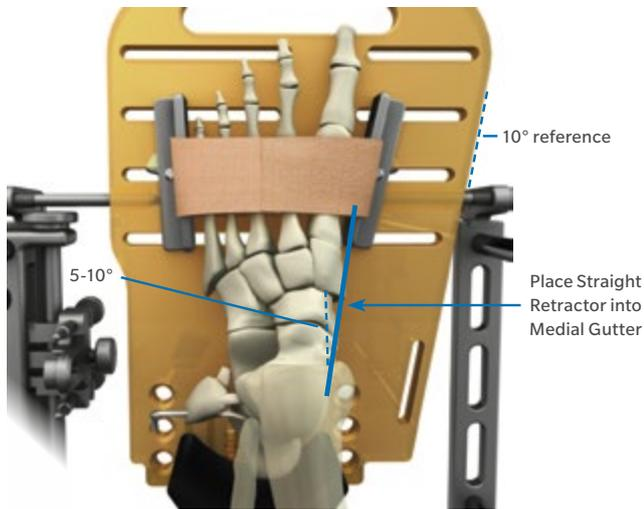

Fig. 16 Align talus and tibia in transverse plane.
- Rotate the leg/ankle so that the plane of the medial clear space is angled 5° to 10° medially from vertical (Fig. 16).